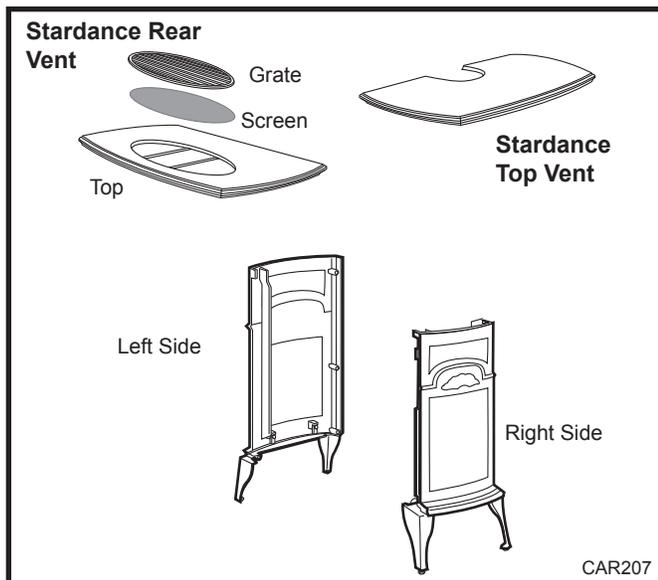

Fig. 1 Carton contents for Stardance shell.
The Stardance shell is comprised of three cast iron plates plus the front with operable doors. The top plate for the top vent models is a single piece. The top plate for the rear vent models has three (3) pieces, the plate, screen and grate. Compare parts received with those shown in Figures 1 & 2. Carefully inspect all parts and immediately report any damaged or missing parts to your dealer/distributor.